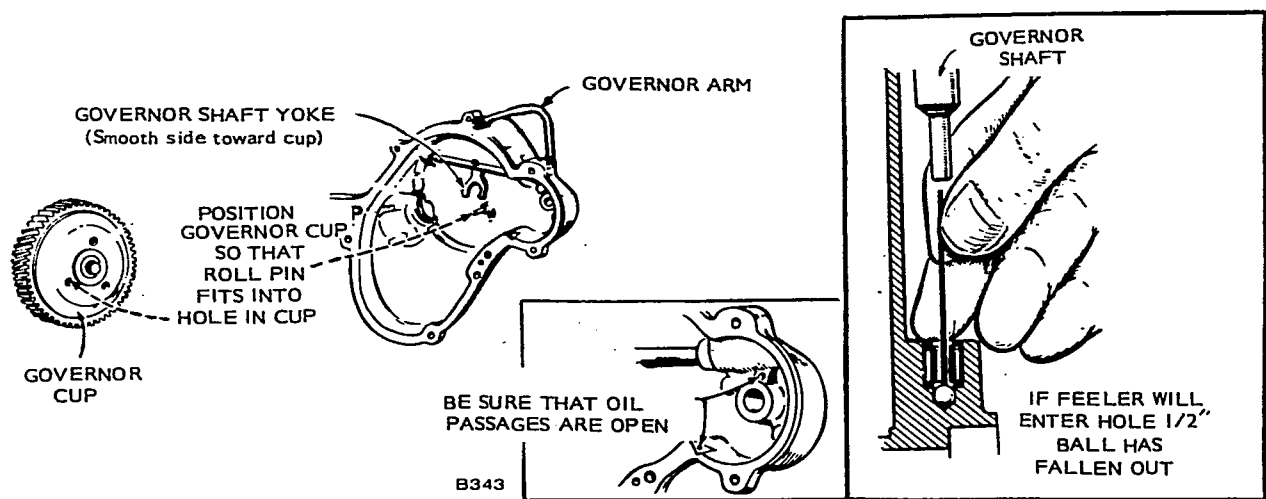

FIGURE 45. GEAR COVER ASSEMBLY
Governor Shaft: The governor shaft is supported by two sets of needle bearings. To remove the shaft, remove the yoke and pull the shaft from the gear cover. If the shaft is binding, clean the bearings. If loose, replace the bearings. To remove the larger bearing, drive both bearing and oil seal out from the outside of the gear cover. Remove the smaller bearing with an Easy-Out or similar tool. Press new bearings and oil seal into place. See Figure 45.
1. Work governor shaft to check for binding and see that the governor shaft end-thrust ball is in place (Figure 45). Later models have larger ball which will not fall out.